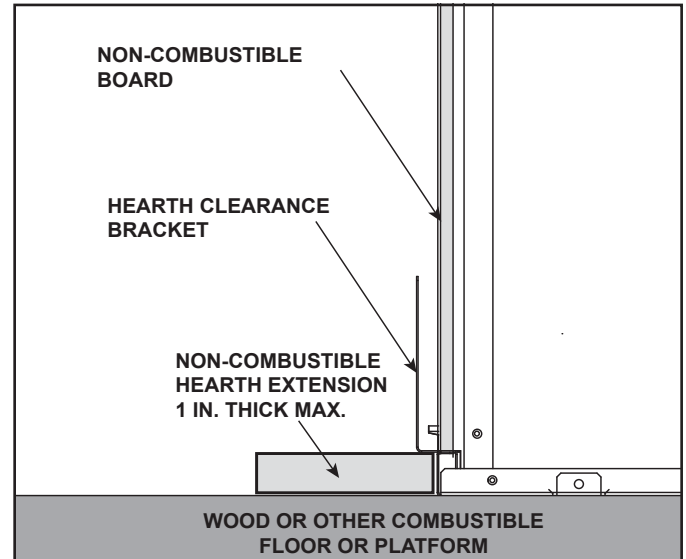
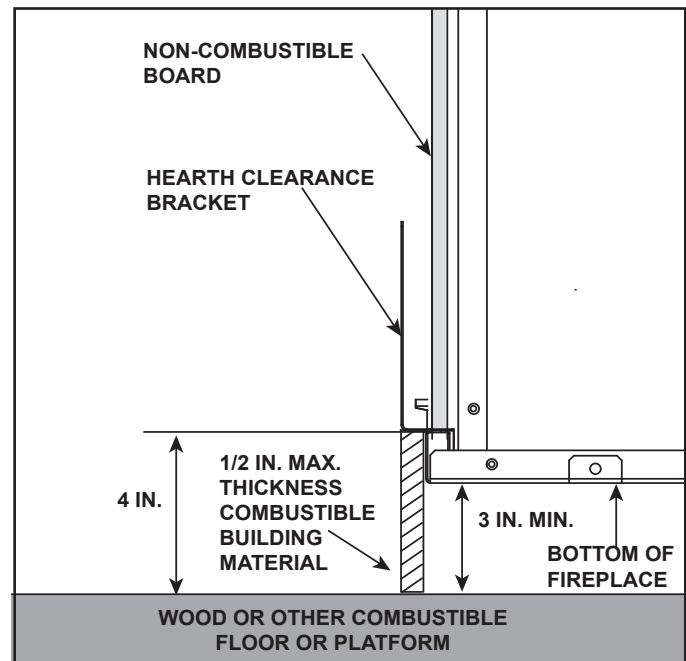

Figure 5.11 Appliance Installed on Combustible Surface
Figure 5.12 Appliance Raised a Minimum of 3 Inches Above
- Hearth extension must be non-combustible and serves to protect combustible floors in front of appliance. See Figure 5.11.
- The base of the fireplace may sit on a combustible surface. See Figure 5.11. The area in front of the appliance must be protected by a non-combustible hearth extension, unless the appliance is raised a minimum of three inches above the combustible floor or hearth. See Figure 5.11 and Figure 5.12.
If a hearth greater than one inch in thickness is desired, the appliance must be raised by the equivalent height to ensure that the hearth extension does not interfere with the installation of the glass assembly required for fireplace operation. See Figure 5.11.